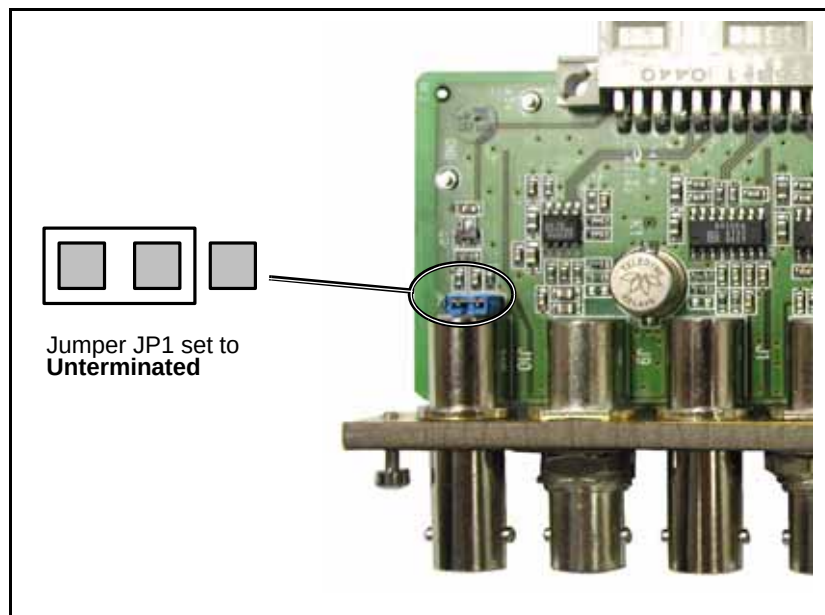

Figure 4-5. Jumper J11 on the NSM Back Module
- b. Locate jumper **J11** on the NEO NSM back module (see Figure 4-5).